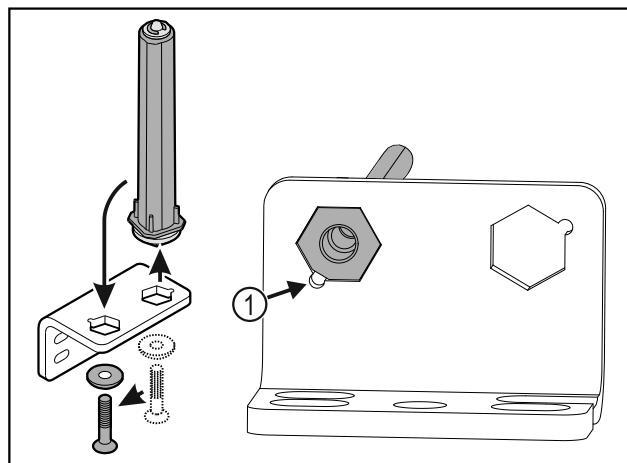

Fig. 27
- Make sure the pin chamfer Fig. 27 (1) faces the round hole when you put it in.